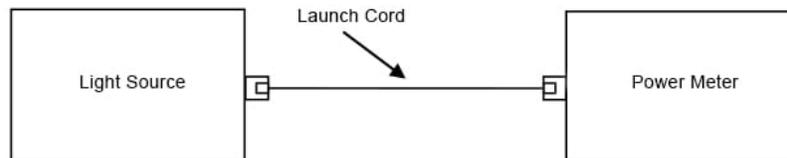

Figure 9. Set the reference using the one-cord
a. Set a reference between the light source and power meter using the launch cord (see Figure 9).